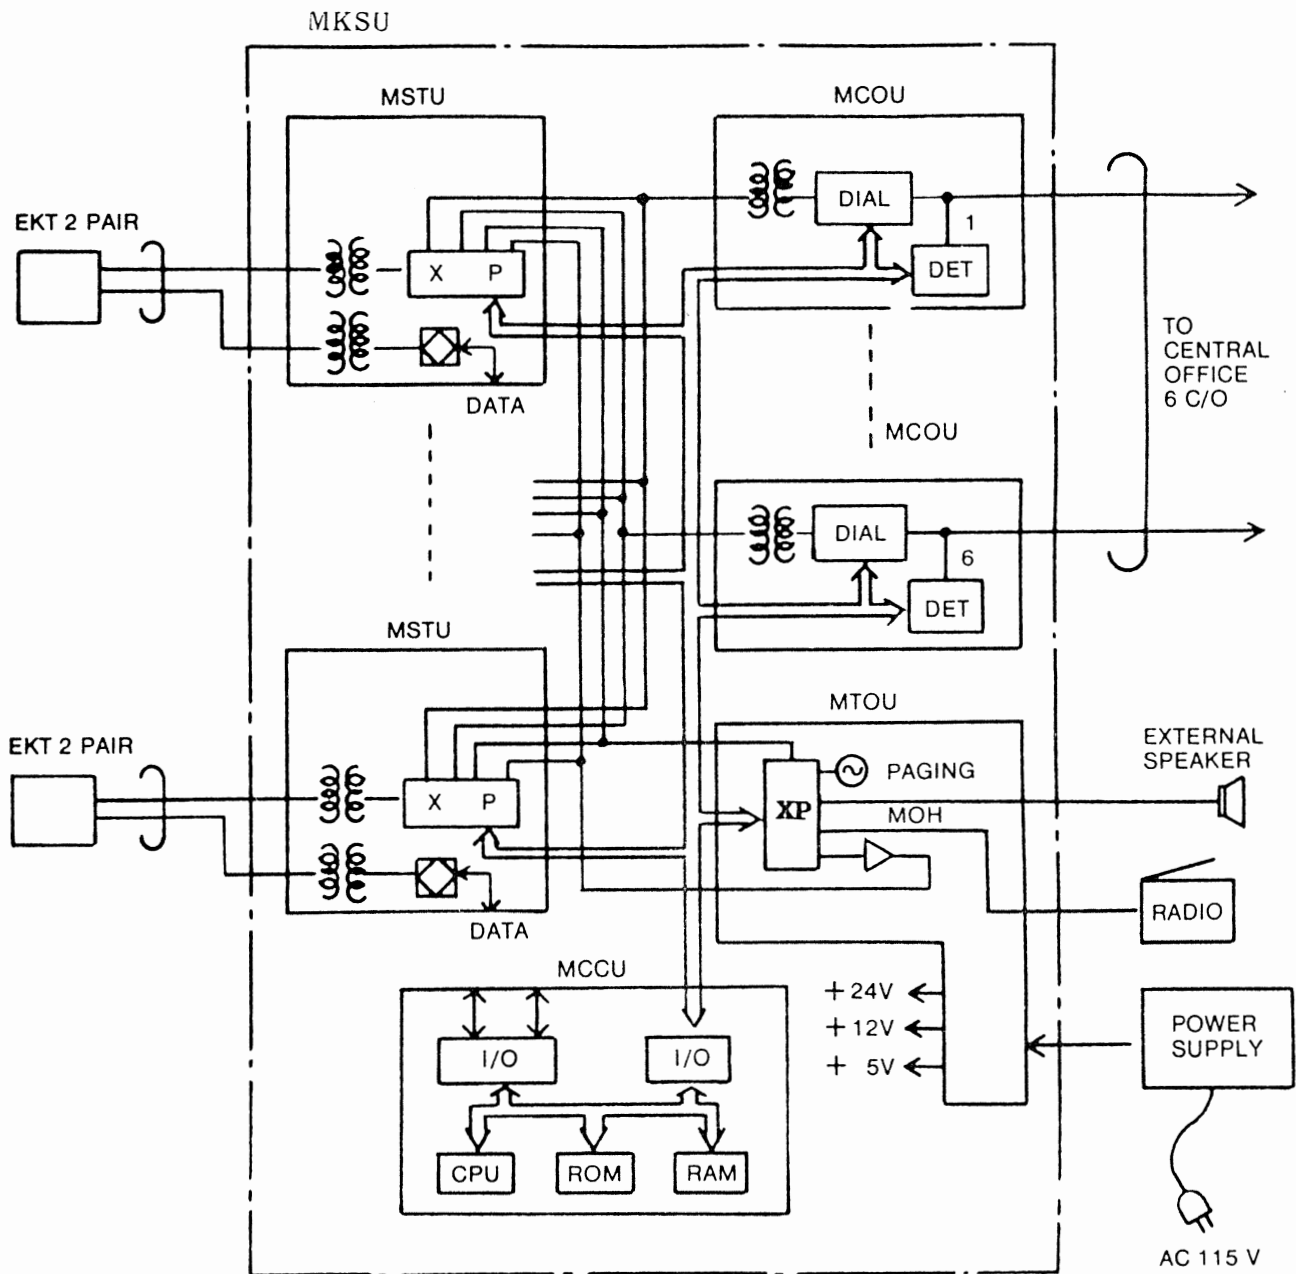

FIGURE 7
**02.02** A functional block diagram of the STRATA VI MKSU is shown in Figure 7; it consists of station interfaces (MSTU), which include a solid-state space division matrix; CO line interfaces (MCOU) and central control equipment (MTOU and MCCU).